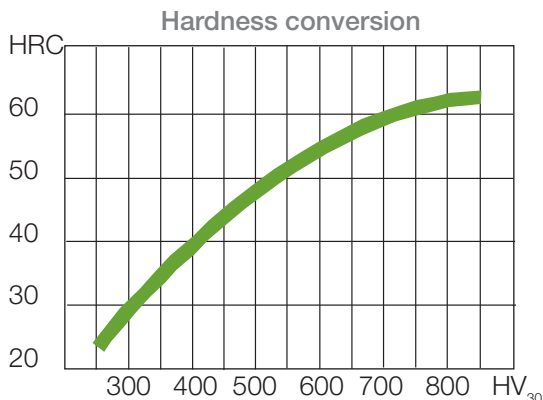

Figure 10 Measured on powder-welded flat welds
Rockwell (HRC) or Vickers (HV) are used as a measure of hardness. Indicative conversions can use the curve, (Fig. 10).